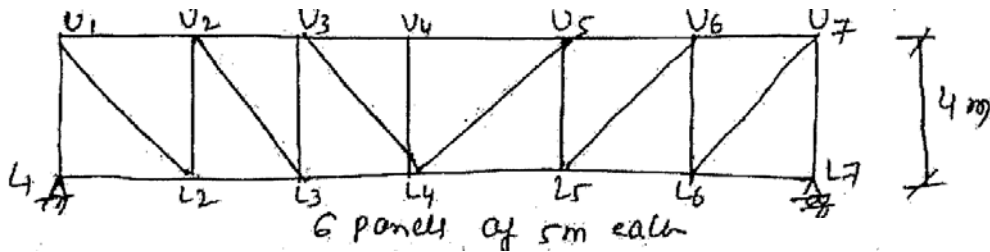

fig.4
- b)** Draw the influence line diagrams for forces in the member U_2U_3 , U_2L_2 and L_2L_3 of the truss as shown in fig. 4. [8]